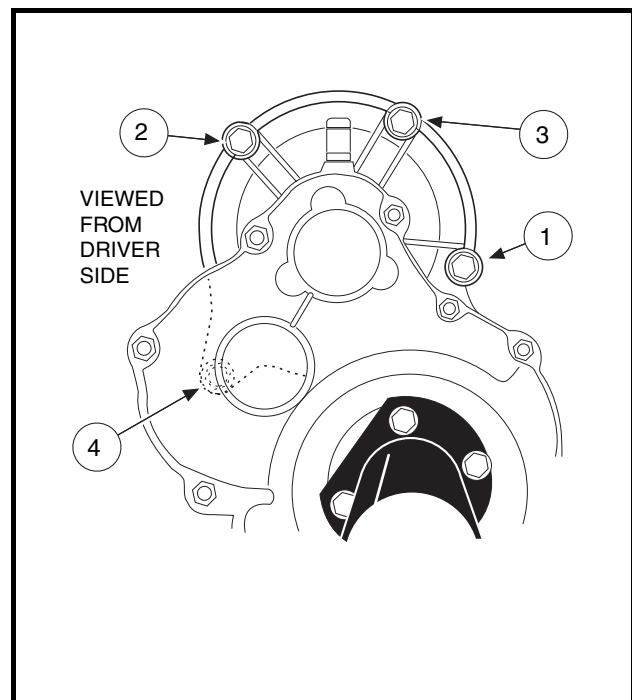

Figure 26-18 Motor Mount
- 4.3. Begin finger-tightening the bolts in the sequence indicated (**Figure 26-18, Page 26-14**). Continue tightening by hand until the motor is seated in the transaxle housing. **See following CAUTION and NOTE.**
- 4.6. Tighten the center bolt (3) to 65 in-lb (7.3 N·m) (**Figure 26-18, Page 26-14**).